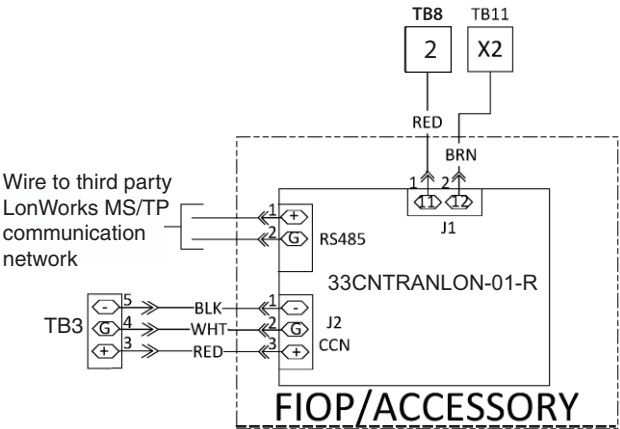

Fig. 4 — LonWorks Translator Module Wiring Diagram
7. Referring to Fig. 4, connect black wire labeled LON J2– to the terminal marked J2– on the LonWorks Translator board.